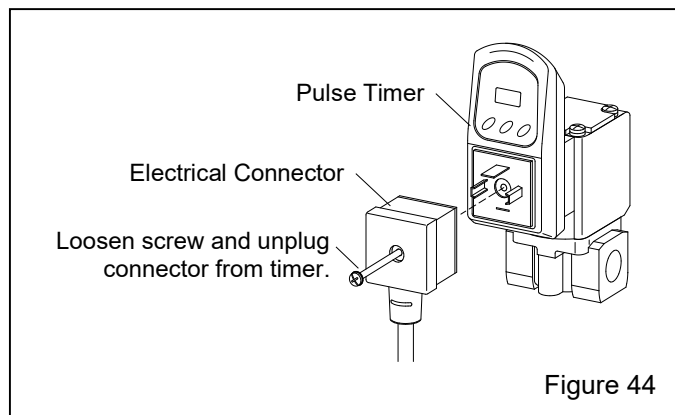

Figure 44
7.16.1 Loosen the connector screw and unplug the electrical connector from the timer, as shown in Figure 44.